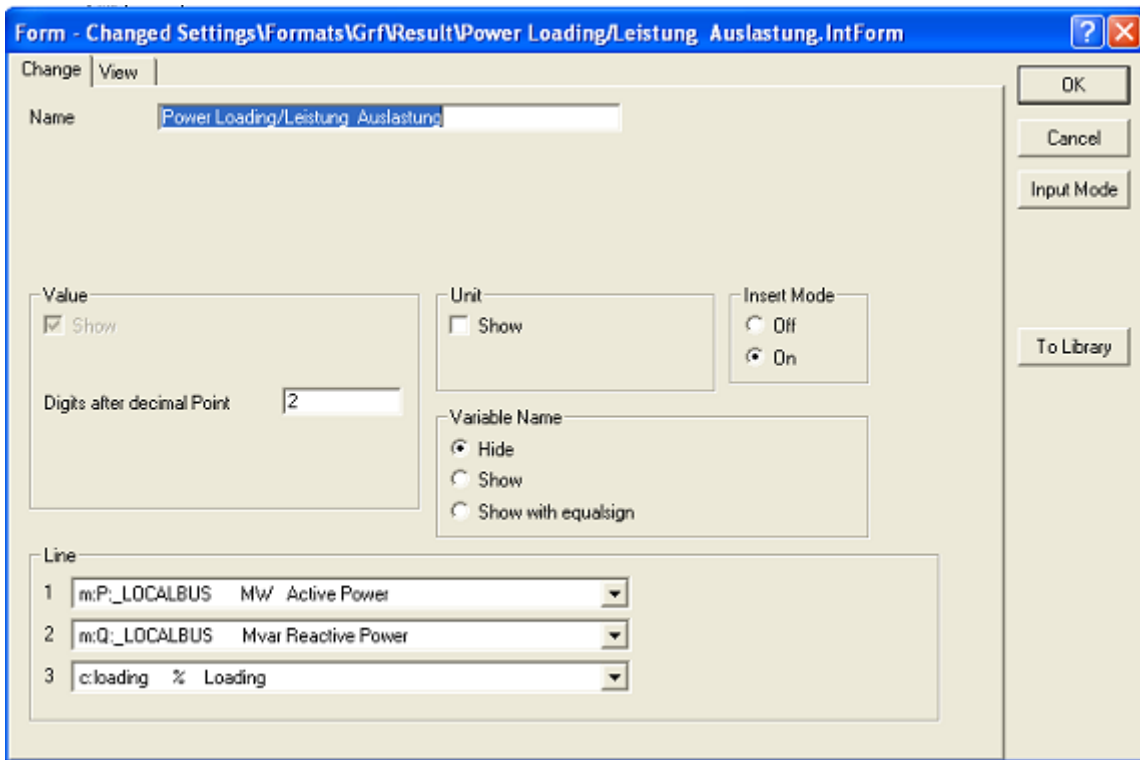

Fig. D.13: Editing result boxes using predefined variables
- ▶ Select the option *Edit Format for Edge Elements*. The format dialogue window appears (see figure D.13).